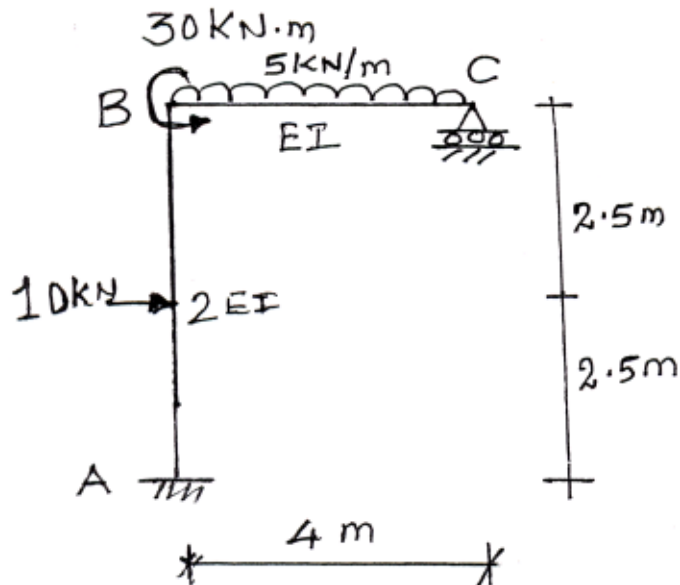

Fig. 4
4. Analyse the rigid jointed plane frame loaded and supported as shown in fig. 4, using Stiffness Matrix Method. Draw BMD, SFD and Elastic Curve. 16